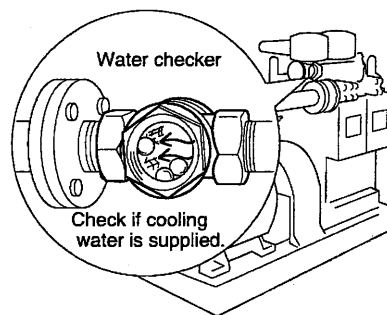

Fig. 22
- (3) Check if the cooling water is supplied, by observing the water checker. (Fig. 22)